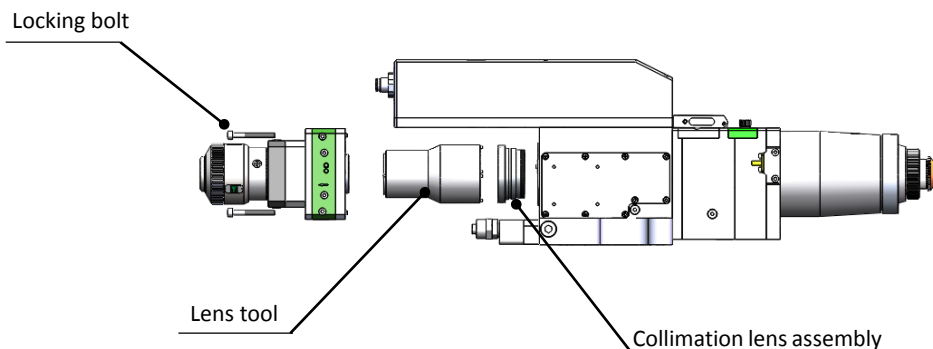

Figure 5.4 — Removal of collimation lens assembly
- Use a 3mm internal hexagonal wrench to unscrew the locking screws of the collimator (as shown in Figure 5.4), seal the opening with textured tape so as to prevent the entry of dust;